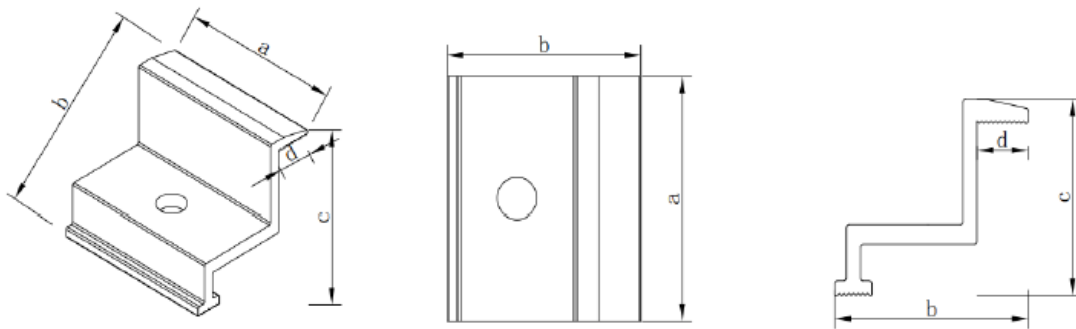

Figure 2: Clamp Drawing
Clamp dimensions and contact area must follow the values shown in Table 1. As shown in Figure 2, the length and width of the clamp are represented by a and b. The minimum length of a is 50mm, and the minimum width of d that is the contact width between clamp and frame is 10mm, and minimum thickness of clamp is 3mm.
- For the maximum loads that do not appear in Table 2 for certain installation methods, and for the other installation methods that doesn't appear in Fig. 2, please contact ECO GREEN ENERGY for more details.